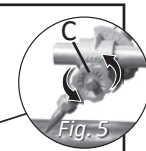

Fig. 5
- A. Loosen knob on Torch Holder. (C, Fig. 5)
- C. Retighten knob. (C, Fig. 5)